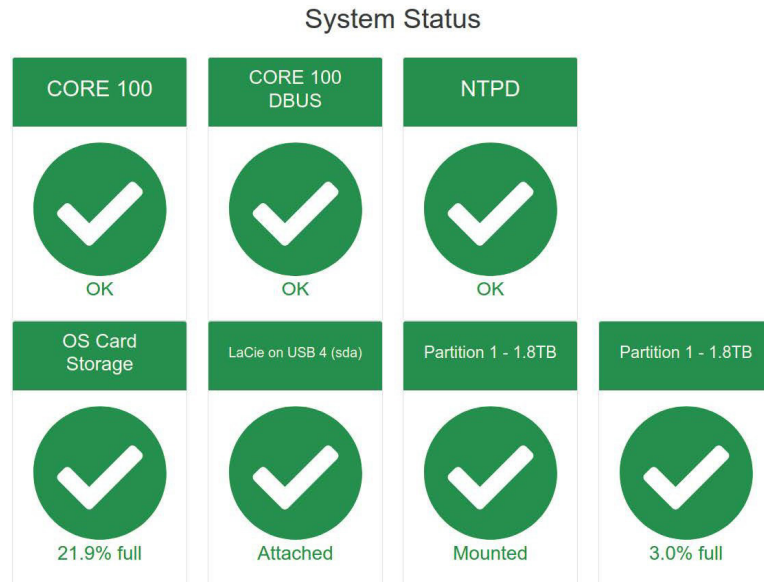

Figure 17. Status page displays the status of the primary components of the ARTEMIS.
3.3 Status (3)
The ViPERS Status (3) page is used for viewing the status of important system processes as well as current alert statuses. These statuses are replicated in the System Report and Alert Report sections of the daily summary message; however, this page provides useful real-time information. Users can also use this page to diagnose and troubleshoot system problems. Status icons are displayed in three colors to represent their statuses. Processes with a green checkmark are known to be okay, while processes that may require user attention are shown with either a yellow exclamation point “!” or a red “X” depending on the severity of the issue. Example status pages are shown in Figure 17.